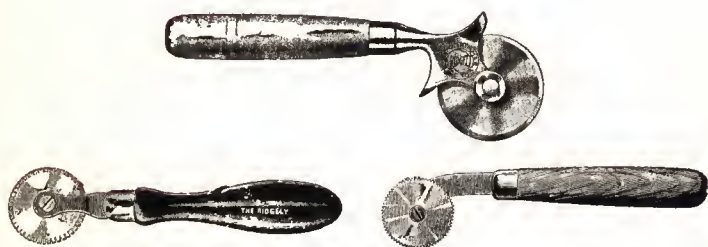

FIG. 24
**Casing and Corner Knives:** Some paperhangers have become quite expert in the use of these special casing and corner knives. The use of these knives which are rotating and have wheels attached, and metal handles, saves time and trouble of cutting with the scissors at the base-board. There is also an endless variety of these knives (See Fig. 24) and it is difficult to pass judgment on which is the best as every paperhanger will have his preference.